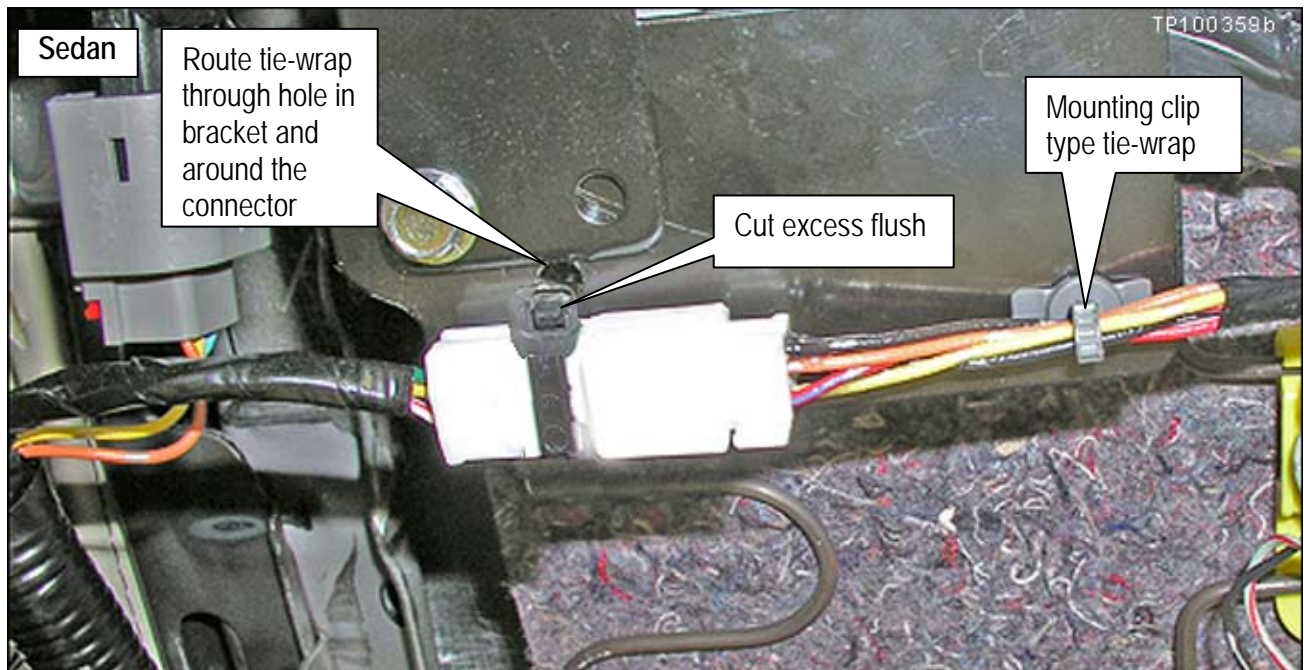

Figure 9
- Sedan shown in Figure 9 below.